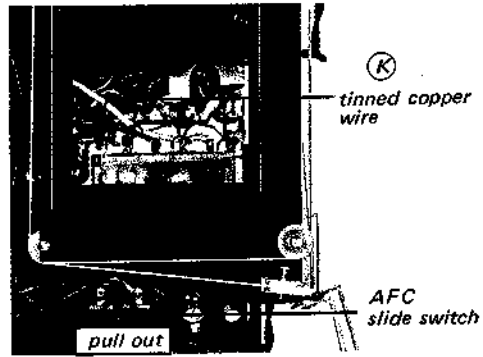

Fig. 2-8.
7. Unsolder the four tinned copper wires (K) and pull out the AFC slide switch as shown in Fig. 2-8.